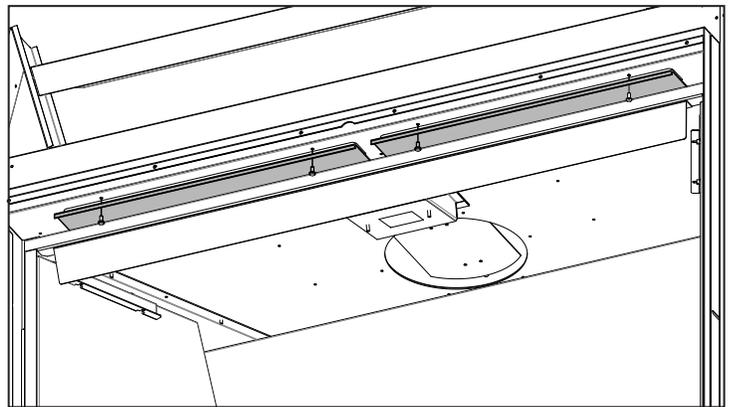

Figure 39: CSS Cover Plates
Step 4. Remove the two cover plates on the ceiling of the unit. These are secured by four (4) T-20 screws. See Figure 39.